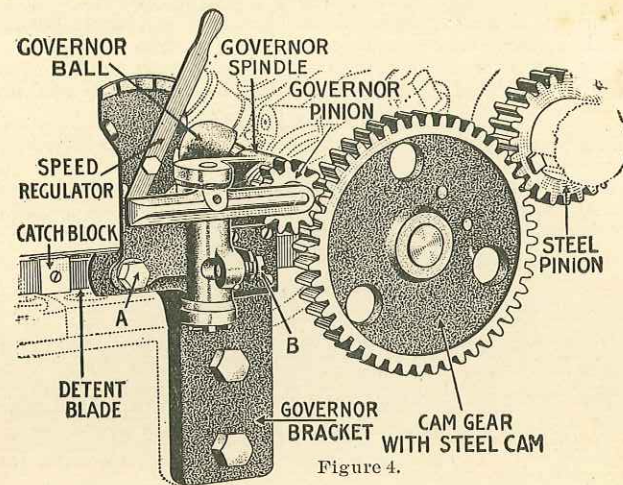

Figure 4.
**Third.** Turn the flywheels to the right until the detent blade (Figure 4, page 8) on the governor can be pushed in behind the catch block on the cam rod and hold it there.